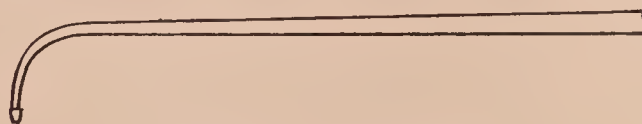
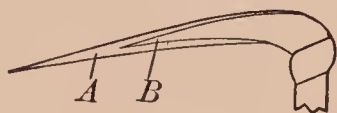
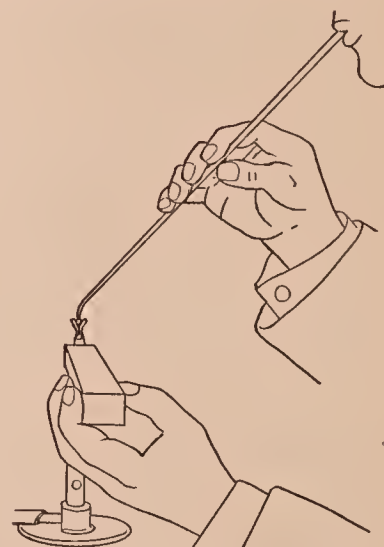

FIG. 66. — Blowpipe
FIG. 68. — Blowpipe
FIG. 67. — Using the
**A. Using the Blowpipe.** — Slip the blowpipe tube (Fig. 65) into the burner tube. Light the gas and lower the flame until it is about 4 cm. (1.5 in.) high. Rest the tip of the blowpipe (Fig. 66) on the top of the blowpipe tube, placing the tip just within the flame. Put the other end of the blowpipe between the lips, puff out the cheeks, inhale through the nose, and exhale into the blowpipe, using the cheeks somewhat as bellows. Do not blow in puffs, but produce a continuous flow of air through the blowpipe (Fig. 67). The flame should be an inner blue cone surrounded by an outer and almost invisible cone (Fig. 68).
surrounded by an outer and almost invisible cone (Fig. 68).
equal parts of sodium carbonate and lead oxide, and heat the mixture in the reducing flame (B in Fig. 68). In a short time bright, silvery globules should appear on the charcoal. Let
**C. Oxidation.** — Heat a small piece of zinc on charcoal in the oxidizing flame (A in Fig. 68). Direct the flame across the zinc so that most of the product will form a coating on the charcoal. Observe the color of the coating on the charcoal when both hot and cold.